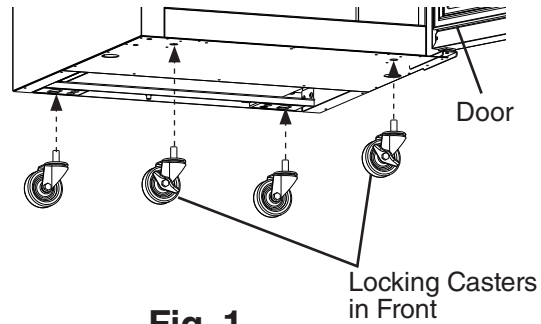

Fig. 1
- 3) Attach the casters to the bottom of the appliance. Locking casters should be attached to the front of the appliance. See Fig. 1. **NOTICE! Ensure casters are completely threaded into appliance and tight.**